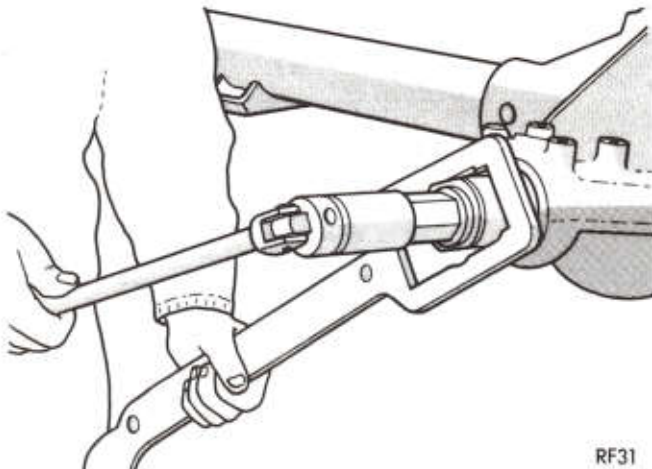

Fig. 28—Seating Bearing Cups in Axle Housing
(1) Start both drive pinion bearing cups into axle housing.
(2) Assemble pinion locating spacer Tool SP-5586 over main body of Tool SP-5385 followed by rear bearing cone. Position tool in axle housing, then install shaft locating sleeve SP-5585, front bearing cone, compression sleeve SP-3194-B, centralizing washer SP-534 and compression nut SP-3193.
(3) Lubricate drive pinion bearing cones with MOPAR Hypoid Lubricant P/N 4318058 or equivalent.
(4) To install pinion bearing cups, hold compression sleeve from turning with Tool C-3281, tighten nut, thereby drawing pinion bearing cups into axle housing bearing cup bores (Fig. 28).
(5) Permit tool to turn several revolutions during tightening operation to permit bearing rollers to align and prevent brinnelling of bearing cups. **Do not remove tool after installing cups. Pinion depth of mesh will be determined next.**
(6) With main tool left in axle housing after installing drive pinion bearing cups, loosen tool nut and retighten nut to produce 10-30 in. lbs. of preload. Rotate while tightening to align bearing rollers.
(7) Install gauge block SP-3250 on end of main body SP-5385, install cap screw SP-536 and tighten securely with SP-531 wrench.
(8) Position cross bore arbor SP-5183 in axle housing in differential bearing seats. Center the arbor so that an approximate equal distance is maintained at both ends. Correctly position differential bearing caps and insert bolts and tighten to 10 ft. lbs. (1 N-m).